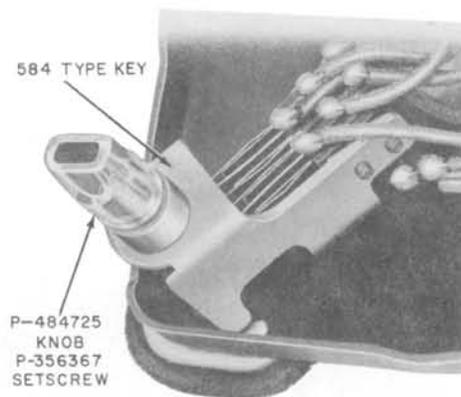

Fig. 3—Typical Turn Key
- (2) Line and signal key to permit 2-line pickup and control of external signaling circuits in key telephone systems (Fig. 3).
- (3) Hold key and line and signal key.